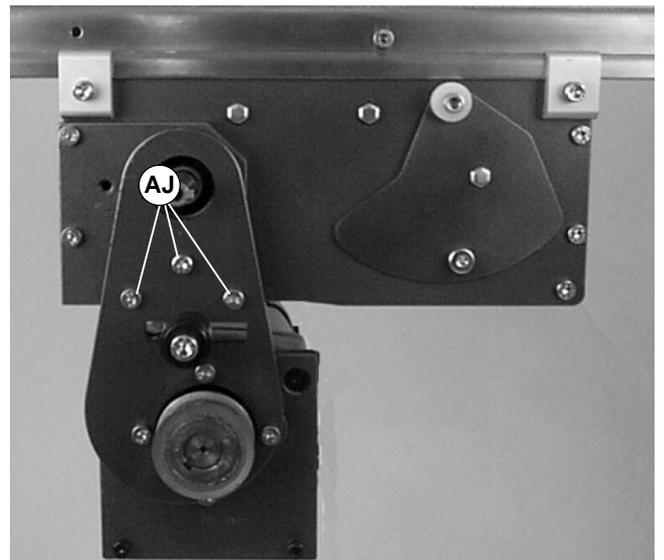

Figure 24
6. Remove three (3) screws (AJ of Figure 24) and remove gearmotor mounting package.
NOTE: With a vertical mount, two (2) screws (AJ of Figure 24) were removed in step 6.